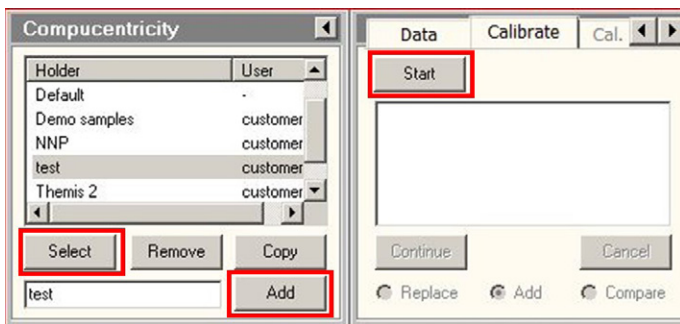
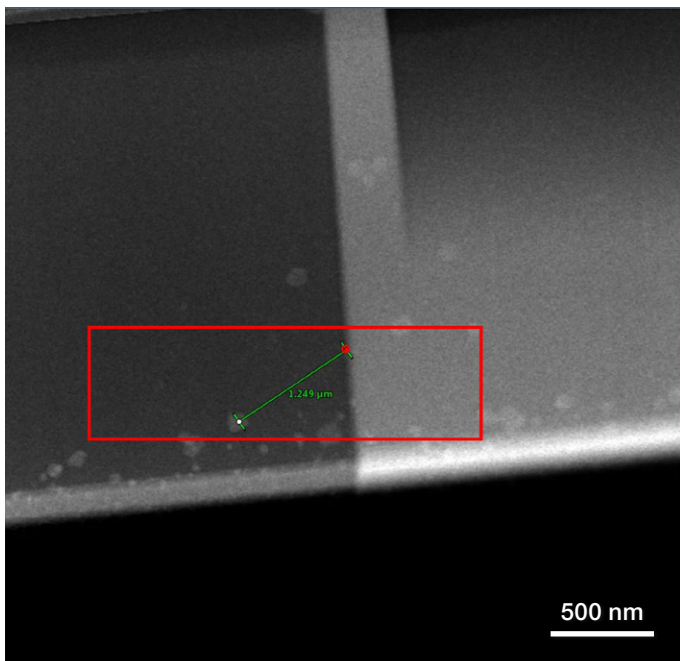

Figure 3. Compucentricity functionality and calibration.
Figure 4. An example showing the center feature movement with 20-degree β tilt after compucentricity calibration.
- 4.7 Go to the **Calibrate** page, press **Start**, and follow the automatic routine for calibration (Figure 3). This routine performs a tilt series in 5° steps from $0 \rightarrow -25 \rightarrow 0 \rightarrow 25$ degrees and calculates an interpolation for stage movement corrections caused by the beta tilting.
4.11 **Compucentricity test:** Go to the **Option** page in the flap-out of **Compucentricity** (Figure 3), select the box **Use compucentricity tilting** and INPUT a tilt angle of 20 or -20 degrees. Press **set B** and, after the stabilization, measure the distance that the feature moves (Figure 4). This value should be less than 2 μm .